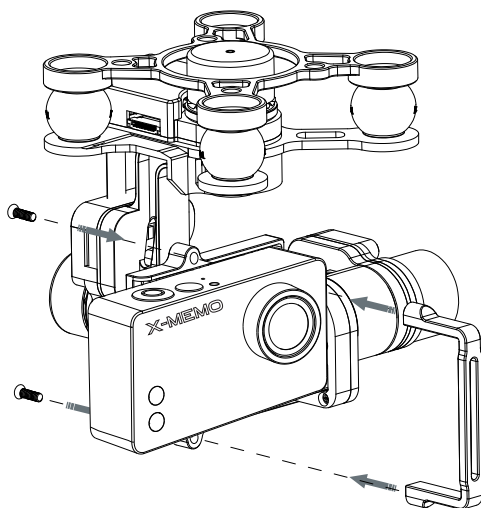

Figure 3-4 *Mounting the Camera*
3. Fasten the securing bracket to the gimbal mount by screwing up the screws supplied, through the aligned holes (*Figure 3-4*).